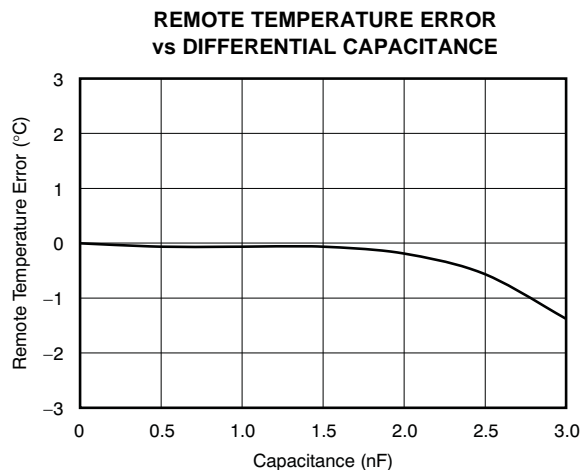

Figure 6.
(3)  $C_{\text{DIFF}}$  (optional) should be  $< 1000\text{pF}$  in most applications. Selection of  $C_{\text{DIFF}}$  depends on application; see the Filtering section and Figure 6, *Remote Temperature Error vs Differential Capacitance*.
- (1) Diode-connected configuration provides better settling time. Transistor-connected configuration provides better series resistance cancellation.
- (2)  $R_S$  (optional) should be  $< 1.5k\Omega$  in most applications. Selection of  $R_S$  depends on application; see the Filtering section.
- (3)  $C_{DIFF}$  (optional) should be  $< 1000pF$  in most applications. Selection of  $C_{DIFF}$  depends on application; see the Filtering section and Figure 6, *Remote Temperature Error vs Differential Capacitance*.
- (4) TMP422 SMBus slave address is 1001 100 when connected as shown.
The TMP421/22/23 tolerate differential input capacitance of up to 1000pF with minimal change in temperature error. The effect of capacitance on sensed remote temperature error is illustrated in Figure 6, *Remote Temperature Error vs Differential Capacitance*.